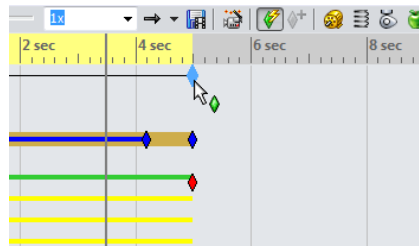

Figure 20-23 Time line before moving the key point
2. To increase the play time of animation, select the key point of first row and drag it to the desired time point, refer to Figures 20-23 and 20-24.